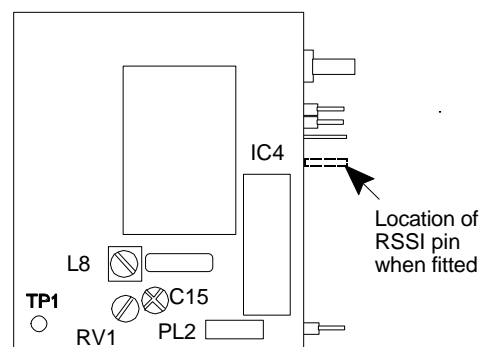

Figure 4
It is possible to adjust the level at which the squelch circuit operates using RV1. This adjustment can be accessed by carefully removing the fingered lid. Refer to Figure 4 for location of RV1. When adjusting RV1 take care not to adjust the adjacent L8 or C15.
3. Function F5 is only enabled when a read-back programming lead is used, (refer to Figure 4). This function displays the current frequency table of the connected STR450 receiver.